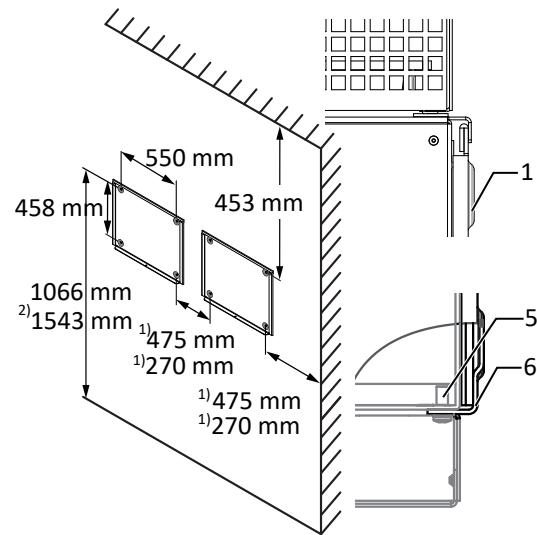

Fig. 11: Wall mounting
- Minimum clearances to be observed during installation: [See figure 11] [► Page 17]
2 Fit the device onto the upper mount by means of the mounting bracket. Fit the device onto the lower mounting bracket in full so that the device sits flush with its rear side on the mount ([See figure 11] [▶ Page 17]).